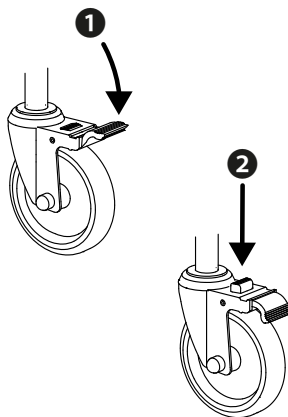

Fig.10
1. Actuate the total lock mechanism by stepping on the locking rocker of both rear wheels. (1, Fig. 10)
2. To release the total lock, step on the small rocker lever (2, Fig. 10).